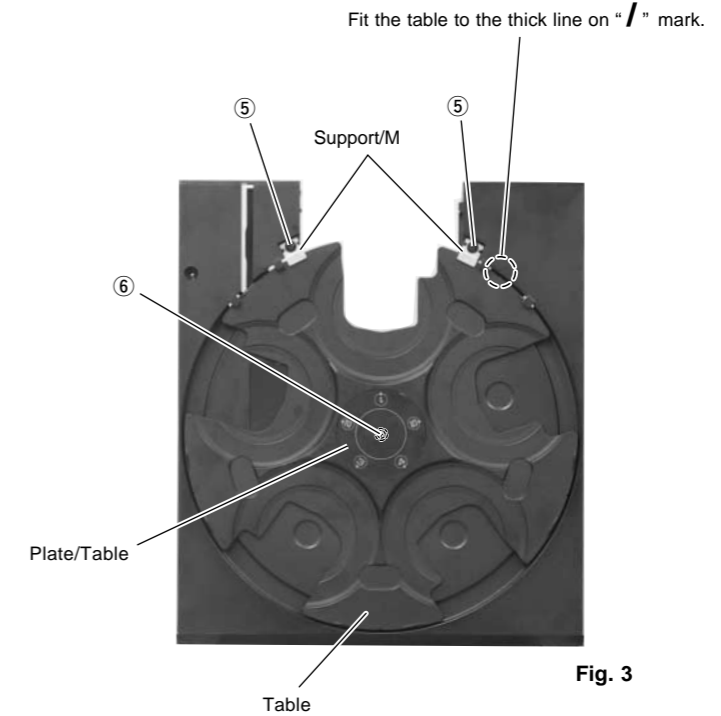

Fig. 3
- a. Remove 2 screws (⑤) and then remove the Support/M in Fig. 3.
- b. Remove the Plate/Table in Fig. 3.
- c. Remove 1 screw (⑥) and then take off the Table in Fig. 3.
- 3) Install the Table by aligning it to the thick line on " / " mark. (Fig.3)